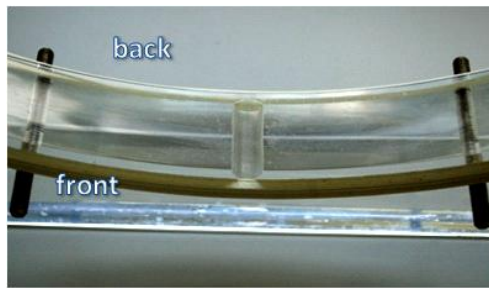

Figure 5
- At the base of the gel caster there is a canal that allow the passage of acrylamide during the casting. The entrance of this canal should be placed toward the front panel (figure 5).